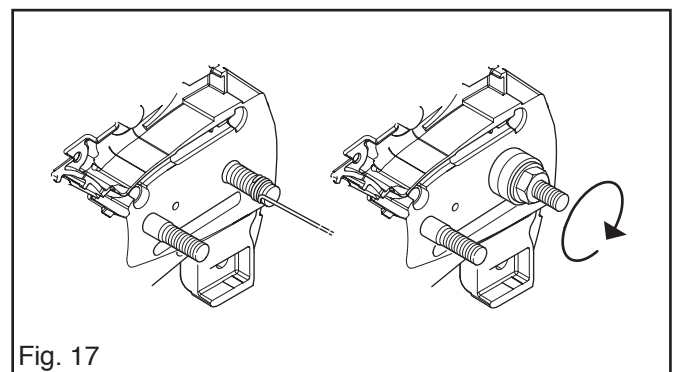

Fig. 17
6. Pull out the bolt with its nut and shim between the nut and crankcase. See fig. 17.